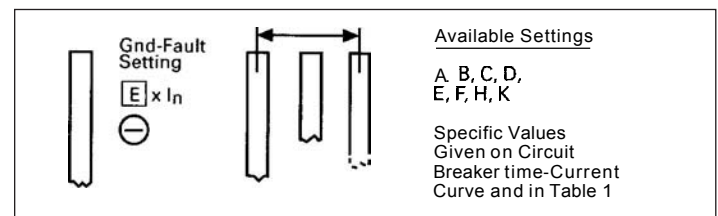

Figure 17. Ground Fault Settings.
The eight (8) Ground Fault "Pick-up" Current Settings are labeled with the code letters "A" through "K" (except there are no "G" or "I" settings), as illustrated in Figure 17. In general, the specific current settings range from 0.25 to 1.0 times ( $I_n$ ), the rating plug value, but cannot exceed 1200 A. The specific Ground Current Settings for each letter are listed in Table 1 and on the (G) Time-Current Curve applicable for the circuit breaker (see Section 5).